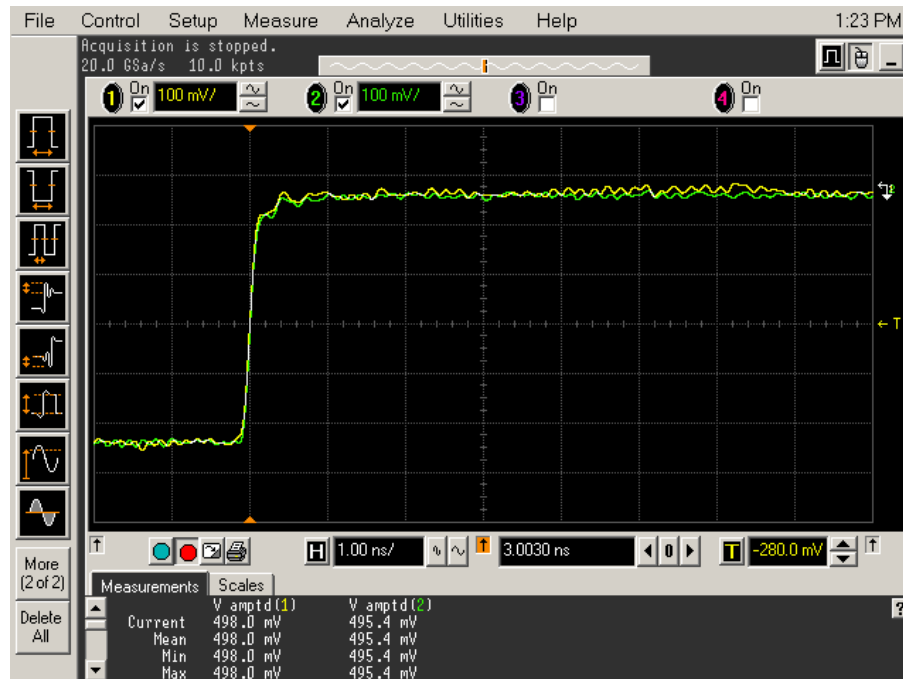

Figure 65 Calibration Probe Waveform Example
- 23 In the Acquisition Setup dialog box enable averaging. When you close the dialog box, you should see waveforms similar to that in Figure 65.